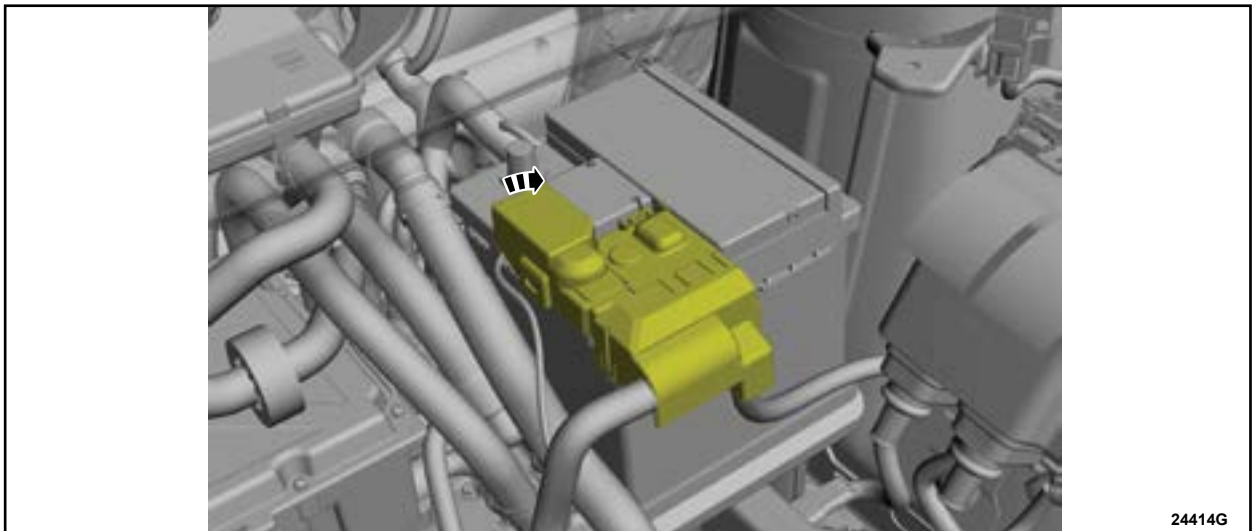

FIGURE 4
6. Position the positive battery cable terminal cover aside. See Figure 4.